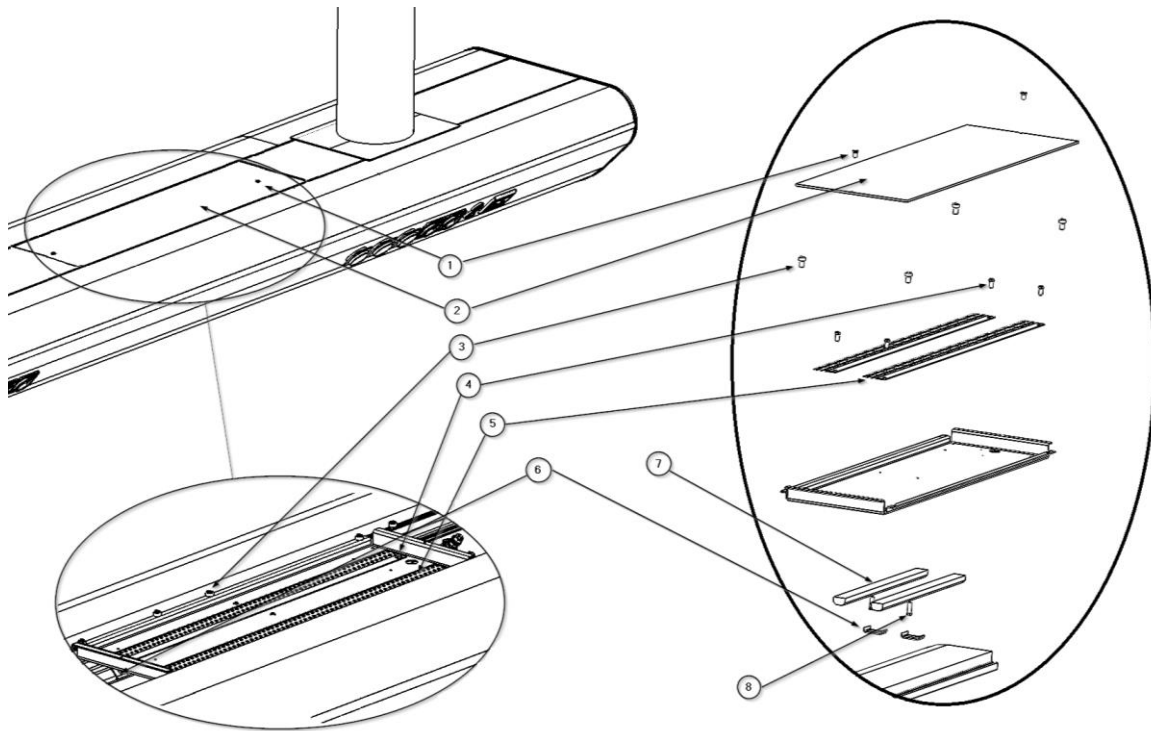

Fig.4 Indirect light substitution
- Disconnect the power supply of the controller ② from the terminal strip.
- Unscrew the 2 M4 x 8 hex screws ① DIN 7500 and release the lighting module. The LED strip ⑤ and its quick connector are visible. See figure 4.